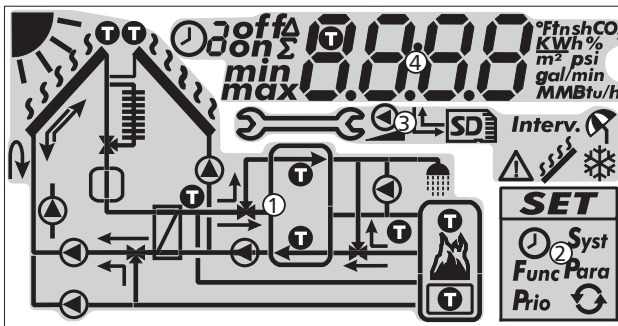

Fig. 8: Overview of the display areas (all elements visible)
The following tables describe the symbols used in the system graphics (① in Fig. 8).
① Drainback tank ② Booster pump ③ Symbol Short startup for drainage assistance ④ Symbol Draining ⑤ Symbol Filling ④ + ⑤ Symbol Stabilising
The settings menu (② in Fig. 8) contains the following entries:
The following table describes the pictograms used for functions (③ in Fig. 8).
The display of the operational and setting values (④ in Fig. 8) consists of the following elements:
①	Symbol for time control of functions. This symbol is displayed when: <ul style="list-style-type: none"> • a time restriction / control has been set, • the status of time restriction/control is displayed, • the time restriction blocks a temperature control (symbol flashes).
②	Number of the time window that is currently being set/displayed or within which the current time lies. The time control of a function consists of 1 to 3 configurable time windows. Example: Time window 1: 06:00 – 08:00 Time window 2: 11:00 – 12:30 Time window 3: 17:00 – 19:00
③	Additional information: on, off: switching state/condition on, off max, min: maximum value, minimum value Σ: summed operational value since first commissioning, cannot be reset Δ: summed operational value since last reset to 0
④	Symbol is displayed when a temperature sensor is selected when setting a function.
⑤	Display of: <ul style="list-style-type: none"> • Measurements • Settings • Error codes • Additional information, e.g. software version
⑥	Physical unit of the value displayed in ⑤: °F, F, psi, gal/min, MBtu, MBtu/h, MMBtu, %, tn sh CO ₂